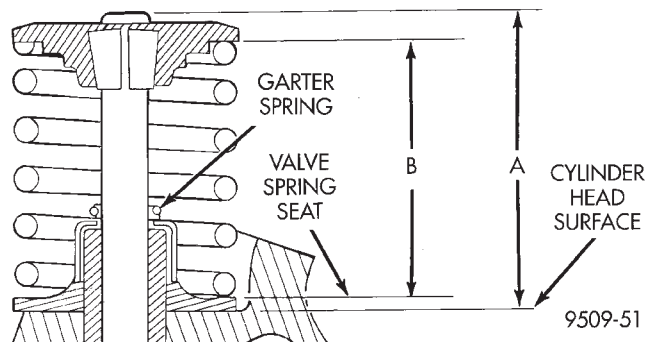

Fig. 48 Checking Spring Installed Height and Valve Tip Height Dimensions
- (4) Check the valve spring installed height B after refacing the valve and seat (Fig. 48). Make sure measurements are taken from top of spring seat to the bottom surface of spring retainer. If height is greater than 38.75 mm (1.525 in.), install a .762 mm (0.030 in.) spacer under the valve spring seat to bring spring height back within specification.